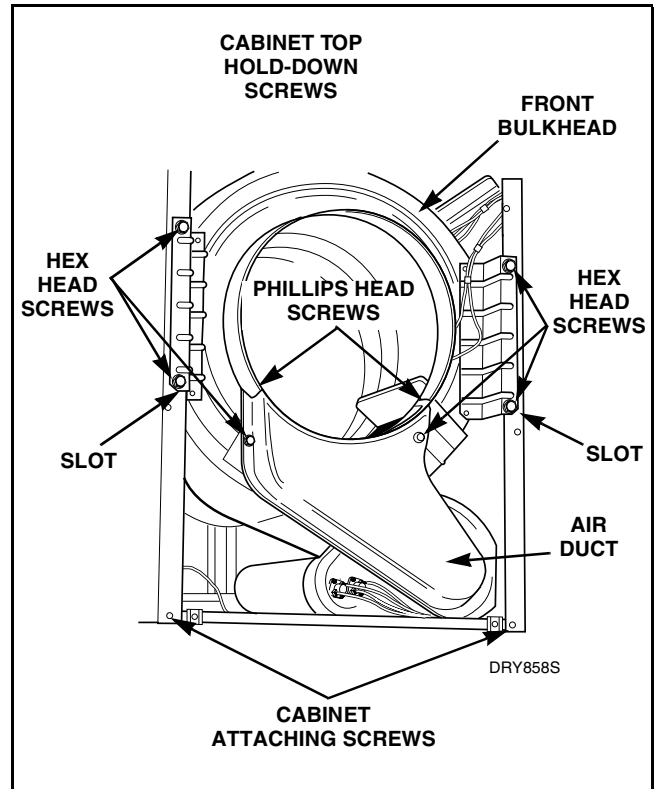

Figure 21
- e. Remove four screws holding air duct to front bulkhead and remove air duct. Refer to *Figure 21*.
- Remove screws holding air duct to front bulkhead and remove air duct. Refer to *Figure 21*.